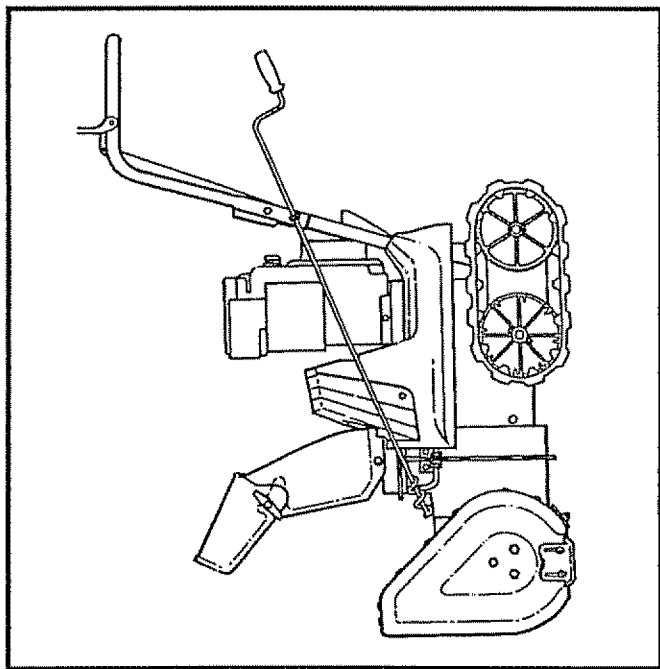

FIG. 31
- Stand the snow thrower up on the auger housing end (See Fig. 31).